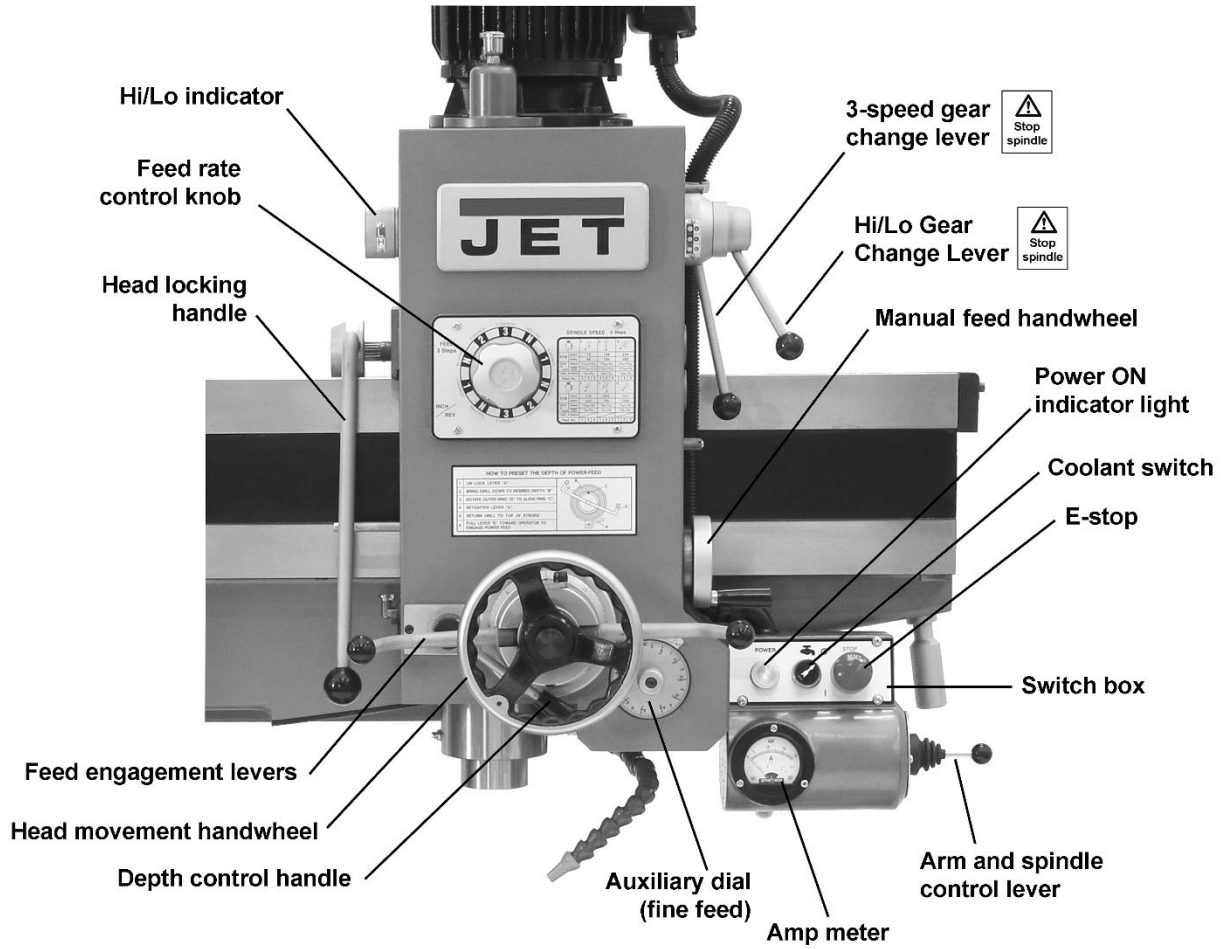

Figure 7-1
5. Turn coolant switch (See Figure 7-1) to the ON position.
6. Replace (3) 32-amp fuses with (3) 20-amp fuses (part no. E3101015, additional purchase). Note: The 5-amp fuse should remain in place.
7. Replace the 230V amp meter (see Figure 7-1) with the 460V amp meter (part no. E3602003, additional purchase).
2. Raise or lower arm to required height using arm/spindle control lever (see Figure 7-1). See also *sect. 8.11*.
1. Release drill head by pushing head locking handle downward (see Figure 7-1).
Spindle speeds are established using the gear change levers on upper right-hand side of drill head (See Figure 7-1). The shorter of the two levers operates a two-speed mechanism which puts the gearbox in either high gear or low gear. A HI/LOW indicator on the upper left hand side of the drill head identifies selected speed range.
Spindle rotation direction is managed by the arm/spindle control lever on right side of drill head. See Figure 7-1.
The fine feed handwheel is located on right side of drill head (see Figure 7-1) and is used as follows: